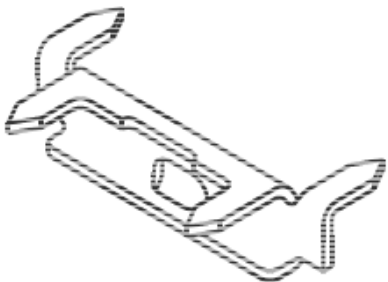

FIGURE 4 – TIGERCLAW TC-3S FASTENER
5.4 Solid deck boards may be fastened using TigerClaw TC-3S hidden fasteners. Two fasteners are required at each support. The outer edge of the first and last deck boards shall be fastened to each joist with one 2.5-inch-long FastenMaster Trim Top™ Stainless Steel Coated Trim Screw. See Figure 4.